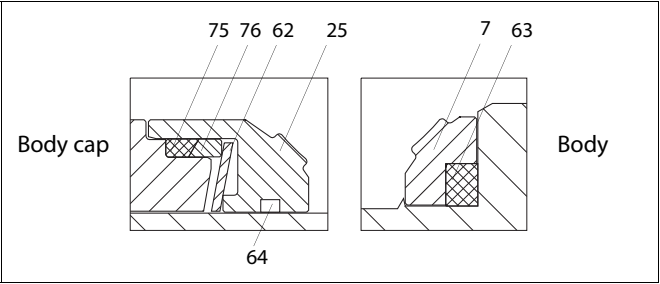

Fig. 21 G seat
- ❑ Place the back seal (63) into the seat (7), see Fig. 21, and then both parts all the way into the body counterbore.
- ❑ Place the ball on the locked seat so that the slot faces the shaft entrance opening. Push the shaft (5) into the valve from outside. Make sure that the end of the shaft fits into the ball slot.
- ❑ Assemble the seat (25) with back seal (64), spring (62), back seal (75) and back-up ring (76), see Fig. 21, and place the assembly in the body cap (2).